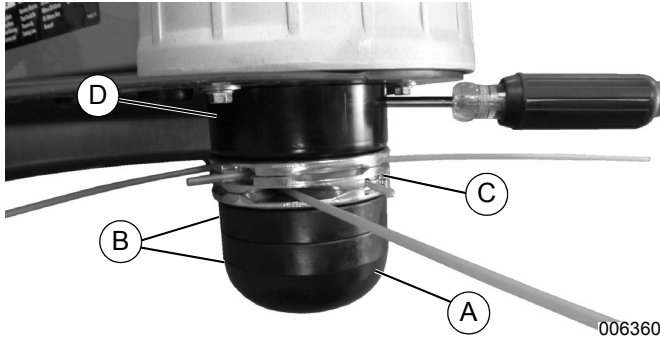

Figure 4-5. Highest Cutting Height Setting
- See **Figure 4-5**. For the highest trimmer setting, install the quick lock with adapter (C), followed by both spacers (B) onto the shaft.
- Place Mow-Ball® bolt into the hex cavity of Mow-Ball (A).